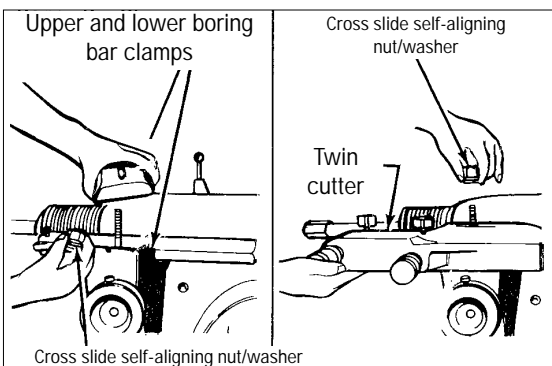

Figure 18 - Install the twin cutter
1. Mount the twin cutter on the cross feed with the stud bolt extending through the cast slot (see figure 18). The slot helps center the twin cutter to the rotor.